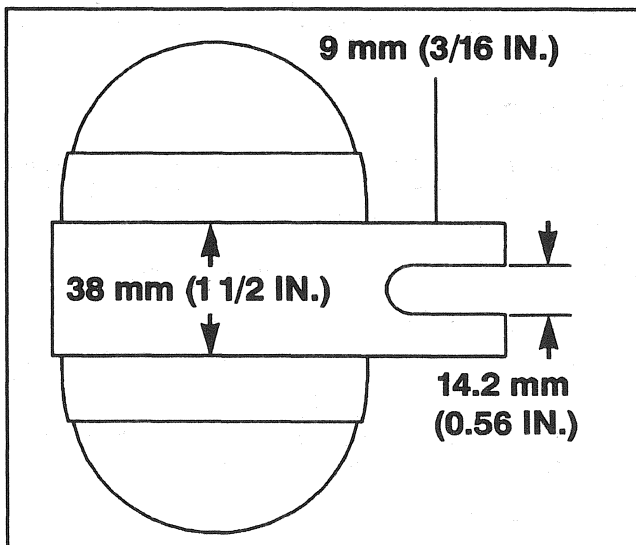

Figure 14—Pinion Stop Support Block
1. Driveshaft support (33) to the driveshaft (31), seating the bearing (32) in the support.
2. Clutch drive assembly (34) to the driveshaft (31).
3. New pinion stop (36) and stop rings (35).
- A. Slide the pinion stop (36) onto the driveshaft (31). End with the recess for the stop rings facing up.
- B. Install the stop rings (35) into the groove in the driveshaft.
- C. Pick the assembly up and support it under the pinion stop (36). A metal block, with a U-shaped cutout that will slide over the shaft between the pinion gear and stop, can be clamped in a vise to provide support (Figure 14).